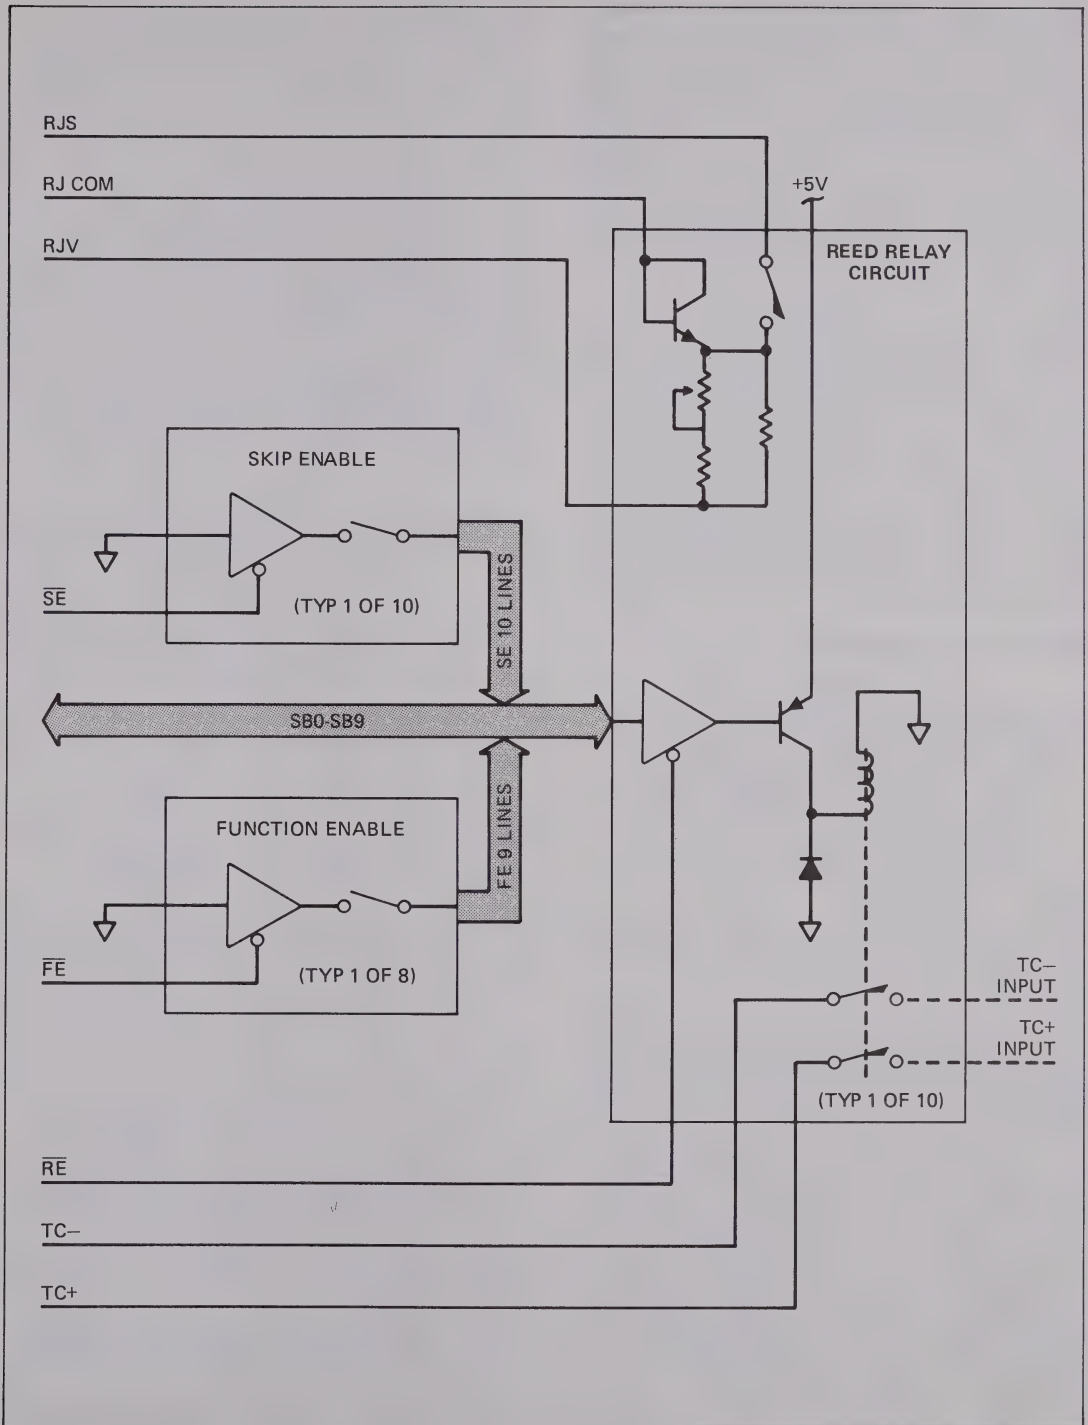

Figure 602-3. Thermocouple Scanner Block Diagram
602-20. Although the purpose of the Skip Enable circuit and the Function enable circuit is different, the two circuits are identical in operation. The functional block diagram given in Figure 602-3, is typical of both circuits. Skip enable circuitry consists of 10 buffers, 10 switch segments, and 10 skip enable lines from the switches to the Selector Bus (SB) lines. Upon initialization, the microcomputer sets Skip Enable (SE) true. Through the buffers, any switch in the closed position supplies a ground-level signal on the associated SB line. The microcomputer reads the SB lines while the SE signal is true, and it stores the information received. Those lines that were at a low level when the microcomputer read them will be skipped during each scan cycle unless the skip condition is modified through front panel operator inputs. Operator inputs through the front panel affect only the microcomputer circuitry; conditions on the Thermocouple Scanner Card are not affected by front panel inputs.